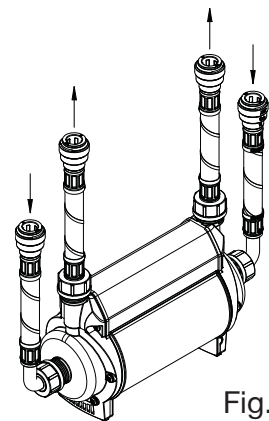

Fig. 2
- 2.20 **Direction of flow:** Ensure the water inlet supply is connected to the correct pump ports Fig. 2.